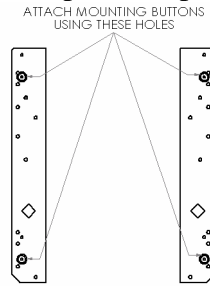
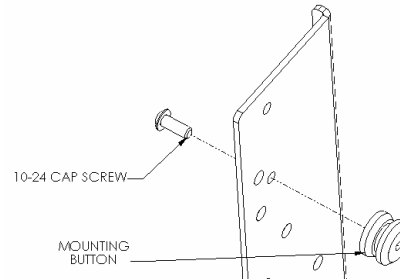

Figure 2
Figure 3
1. Using a 10-24 phillips head cap screw inserted from back side of bracket, secure mounting button, with chamfered hole of mounting button (larger surface) facing bracket, to bracket (4 places) (see Figure 2 & Figure 3).